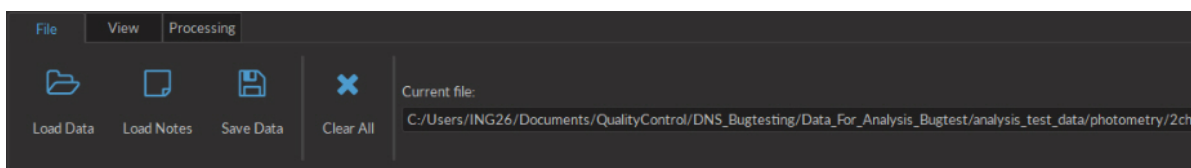

Figure 4.14: File tab
1. The **File Tab** (Fig. 4.14) is used to load/save data,